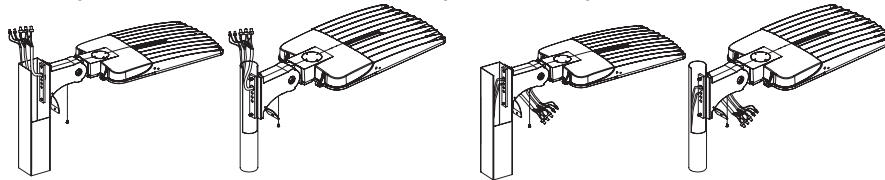

Figure 6.1
6.1. Pass the fixture's AC input wires through the pole. Pull them out together with the pole wires for connection as per Figure 6.1. Pass the pole wires into the EX bracket. Pull them out together with the fixture's AC wire from the junction box. Connect the fixture's AC input wires to pole wires with connectors. L to L (Black), N to N (White), PE to PE (Green). If need to connect dimming wires from pole to fixture, please add connectors to connect Dim - (Purple) to Dim - (Purple) and Dim - (Pink) to Dim - (Pink).